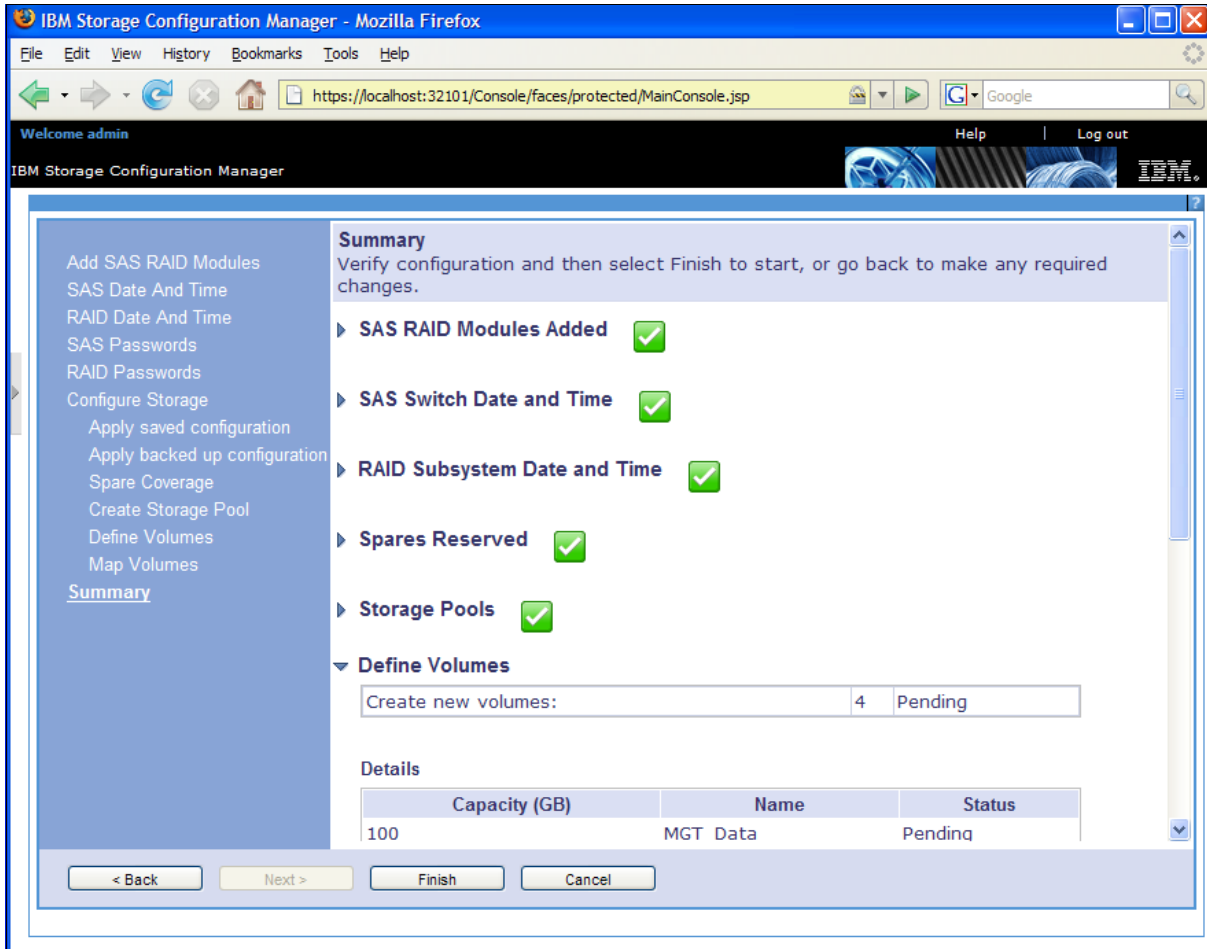

Figure 2-44 Summary panel
15. Review your selection on the “Summary” panel (Figure 2-44). Click **Finish**.